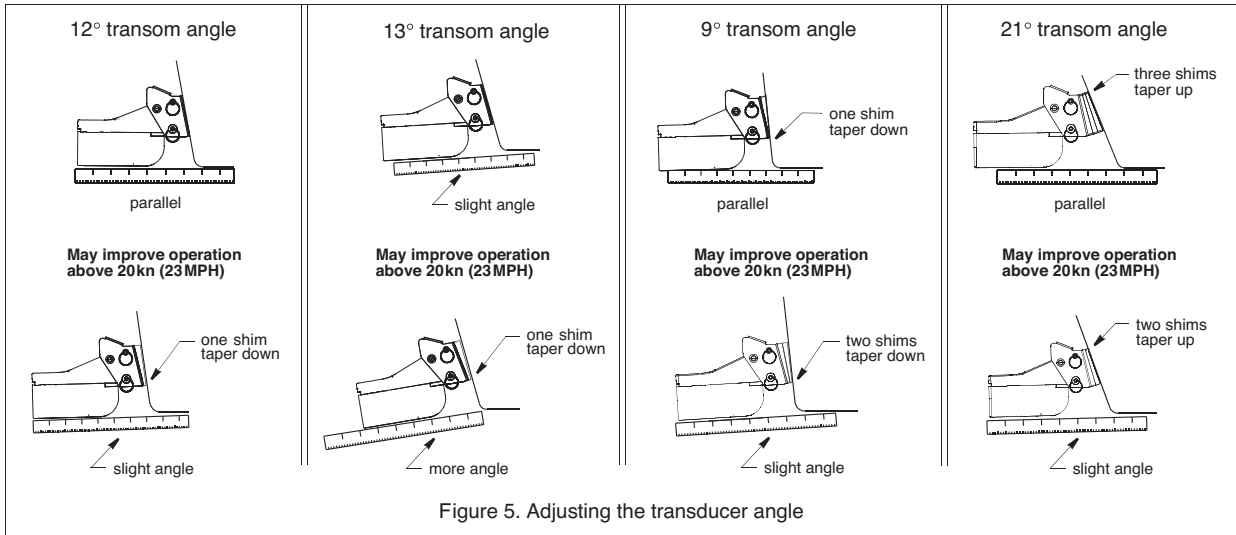

Figure 5. Adjusting the transducer angle
4. With the transducer in the operational position, use a straight edge to sight the underside of the transducer relative to the underside of the hull (Figure 5). The trailing edge of the transducer should be 1–6mm (1/16–1/4") below the leading edge.
- a. Increase the transducer's angle in the water. Review "Compensating for Transom Angle: Shims" and Figure 5.